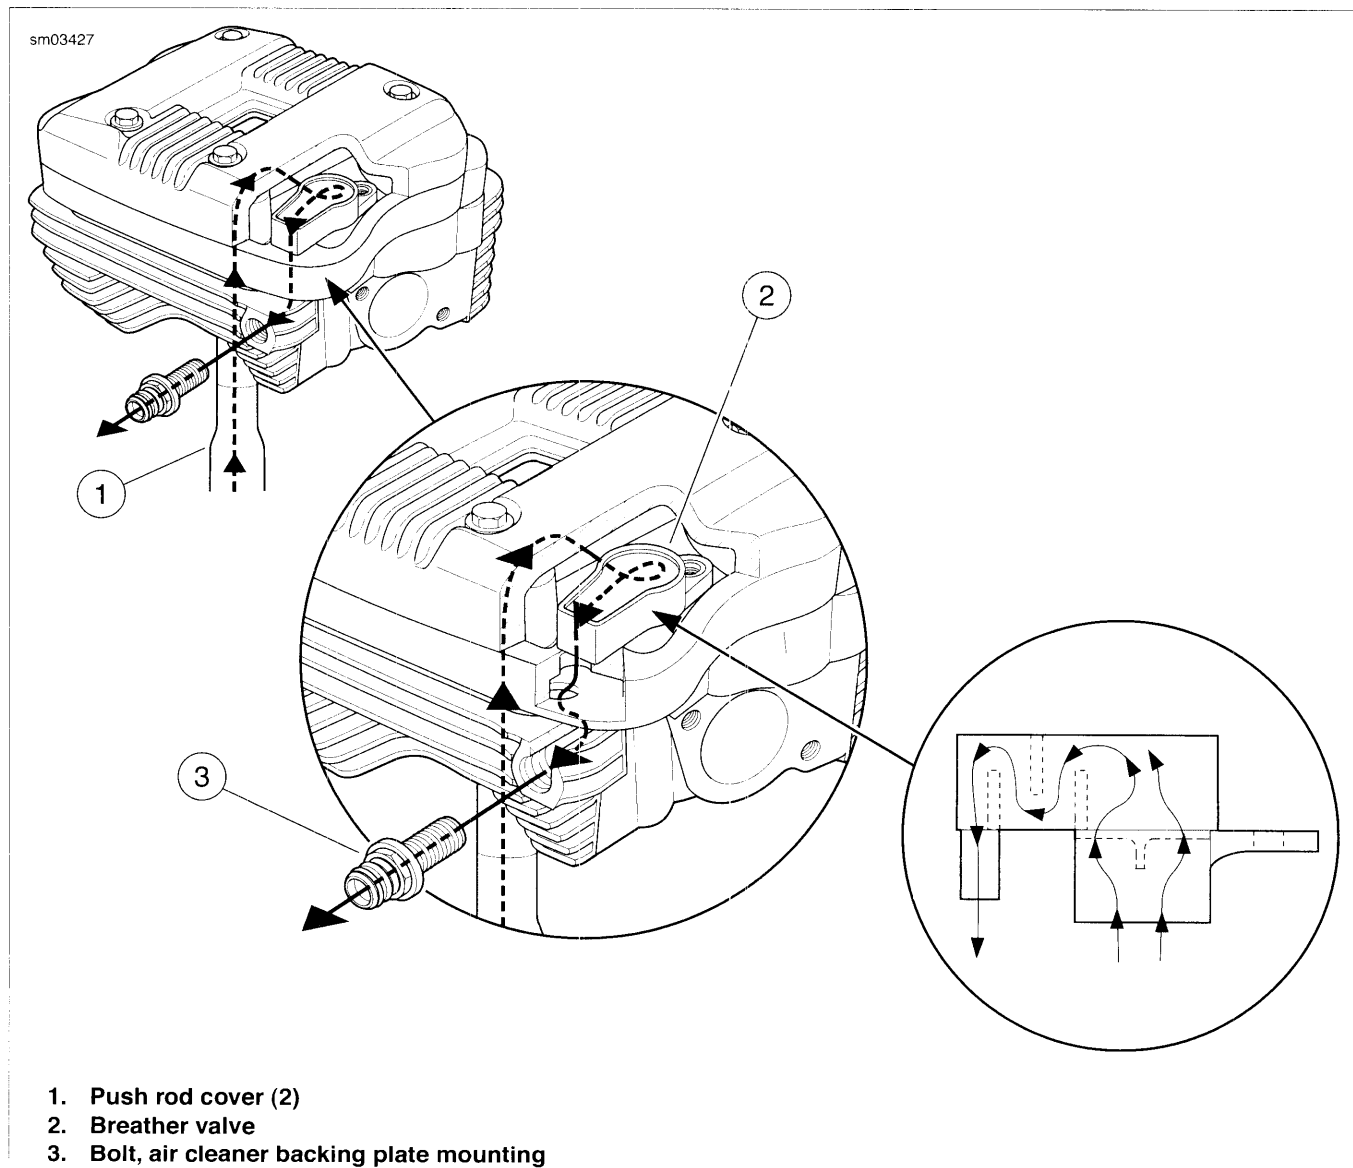

Figure 3-6. Crankcase Breathing System: XL Models
See Figure 3-6. On the piston downstroke, a mixture of crankcase air and oil mist is vented up the push rod covers (1) through a breather valve (2) in each inner rocker box section.